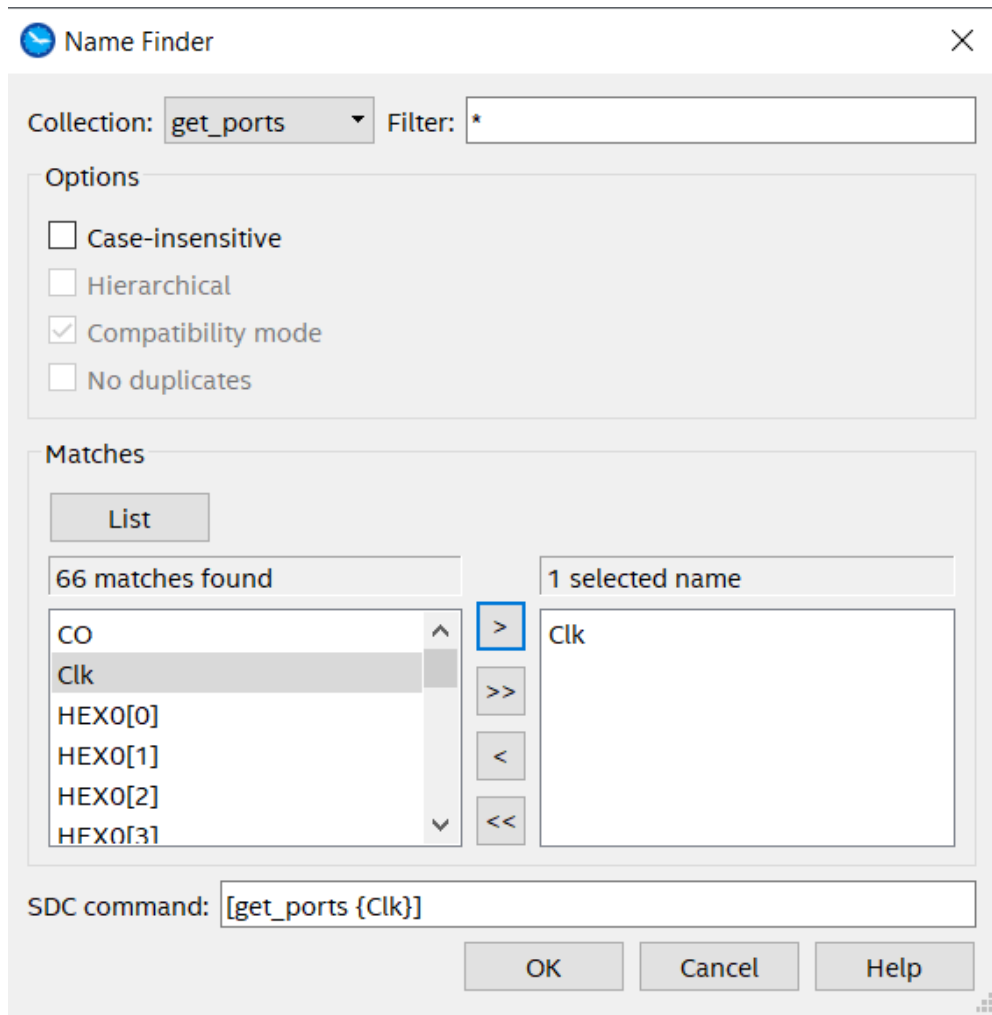

Figure 9
- Click “Targets” browsing icon in the red circle. A window is popped up as shown in figure 9. In “Collection” select “get_ports”, and then click “List”. All the I/O ports defined in top-level module is listed in the space below. Select “Clk” port. Then click “OK” and then “Run” to set.